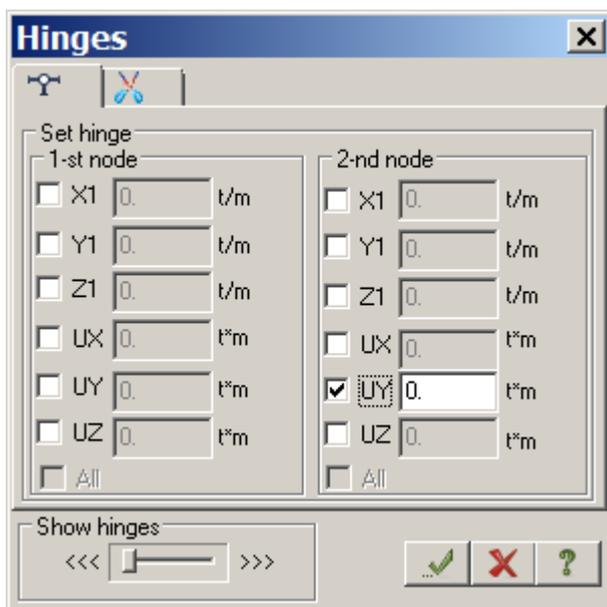

Figure 3.4 Hinges dialog box
- ⇒ In the **Hinges** dialog box (see Fig.3.4), define nodes and directions along which there is no stiffness or there is limited stiffness for the restraint between one of the bar ends and model node. To do this, select appropriate check boxes: